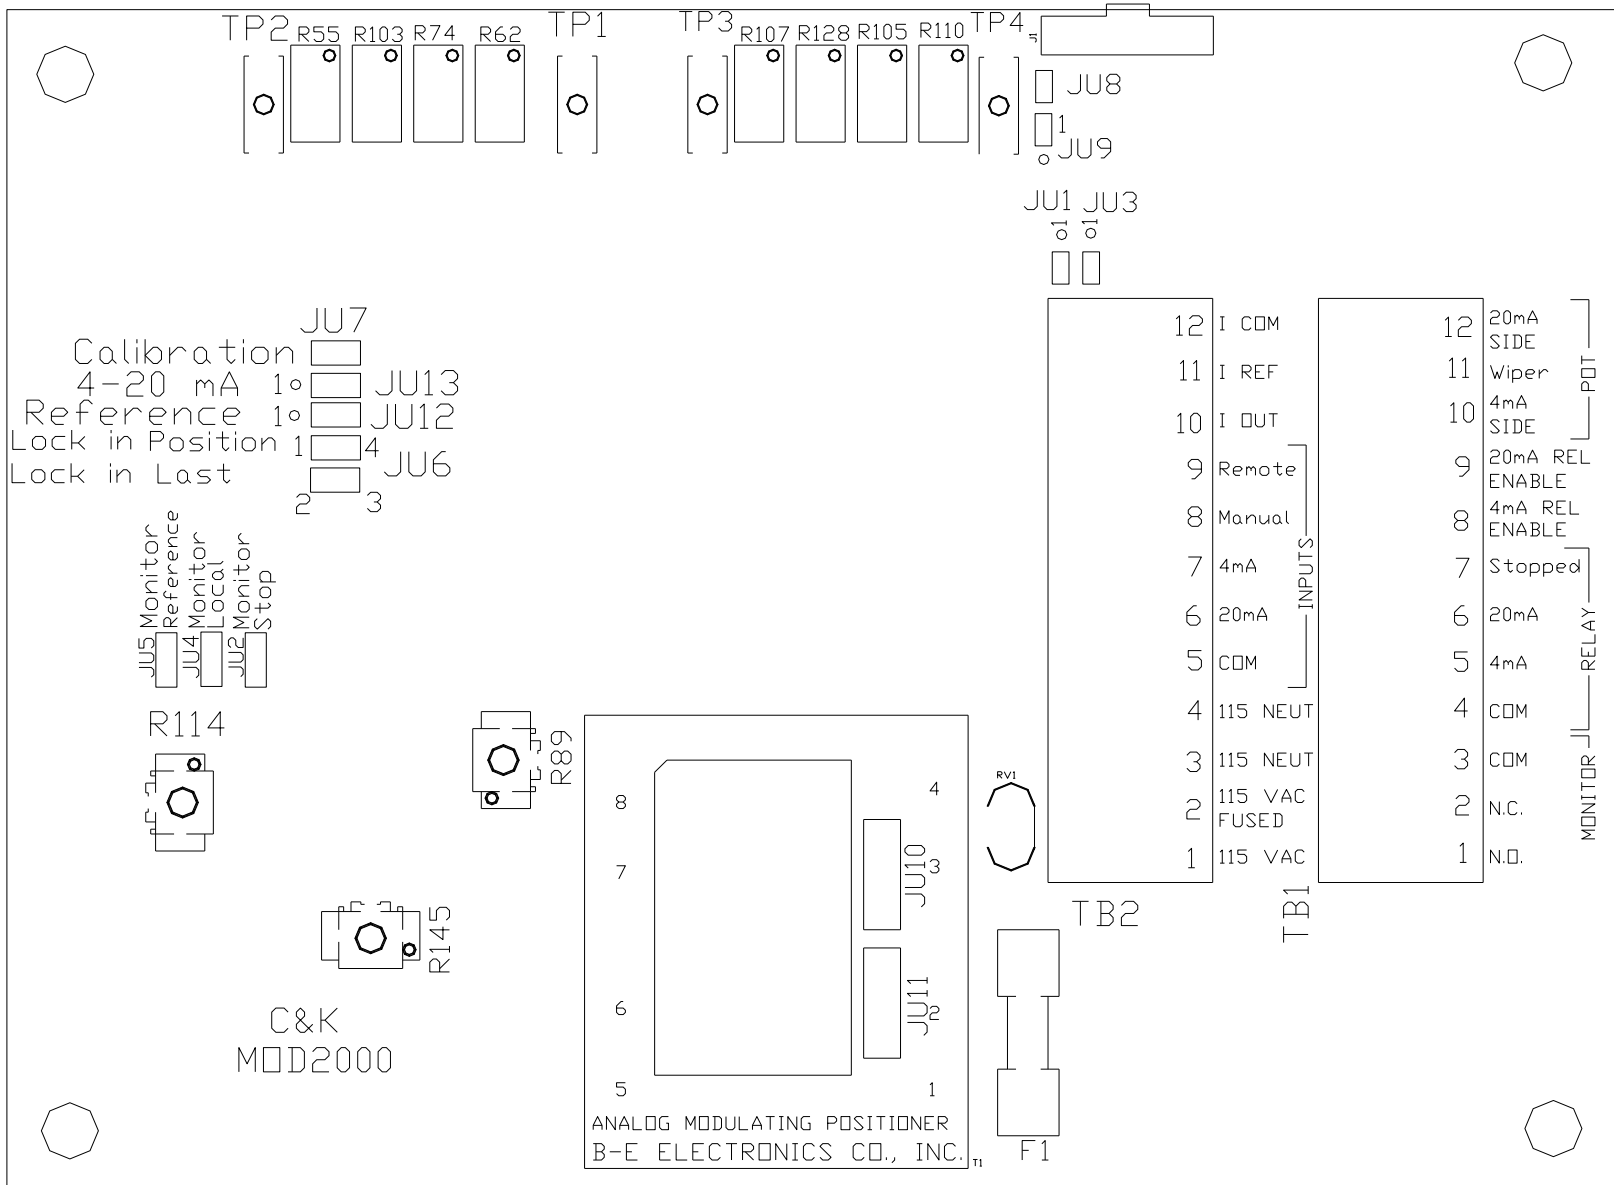

FIGURE 1
The following steps will set up the C & K Mod 2000 Modulating Positioner. Simply adjusting the unit's potentiometers performs calibration. The potentiometers are located at the edge of the unit as shown on top left of the locator diagram (Figure 1) and are easily accessible. Use the locator diagram (Figure 1) to find the desired potentiometers, jumpers and test points. A calibrator (such as a Ronan) providing 4ma and 20ma signals and a DVM (digital voltmeter) are required for setting up the unit. Connect the calibrator's current output plus and minus to the unit's **I REF** and **I COM** respectively (the top 2 terminals on the left terminal block **TB2 /11** and **TB2/12** on the diagram).
16. Potentiometer **R105** (7th from left Fig. 1) controls the **DURATION**. It was set fully CW for maximum duration at the beginning of the setup. Set the duration as desired by adjusting **R105**. Rotating **R105 CW increases** the duration **CCW decreases** it.
17. Potentiometer **R128** (6th from left Fig.1) is the **MINIMUM SPEED** function. This is factory set to the **minimum CCW** position. To **increase** the minimum speed turn **R128 CW**.
The Following Jumper options are available (see **Figure 1** for **jumper locations**):